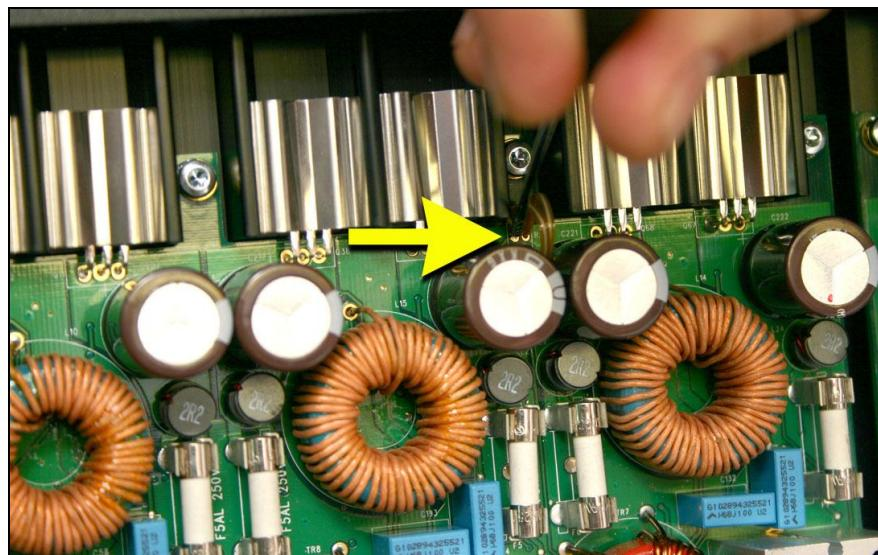
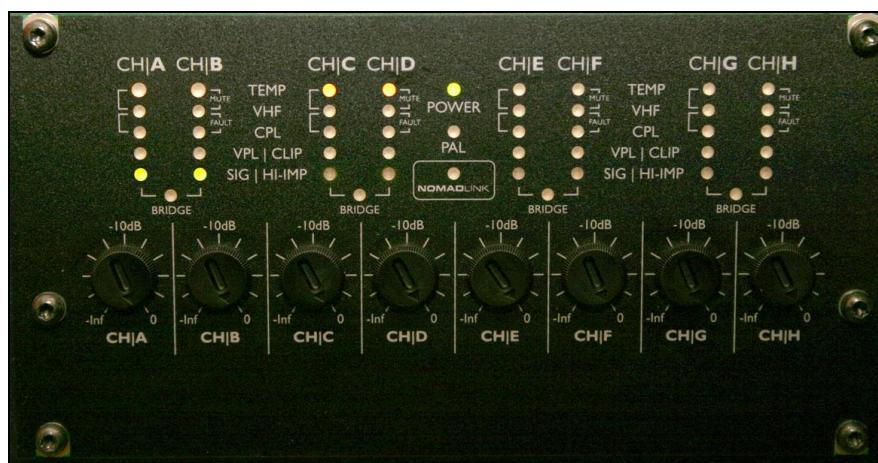

Fig. 22
Fig. 23
21.	Check channel C & D (fig. 22). At the same time look at the led's on front panel (fig. 23).